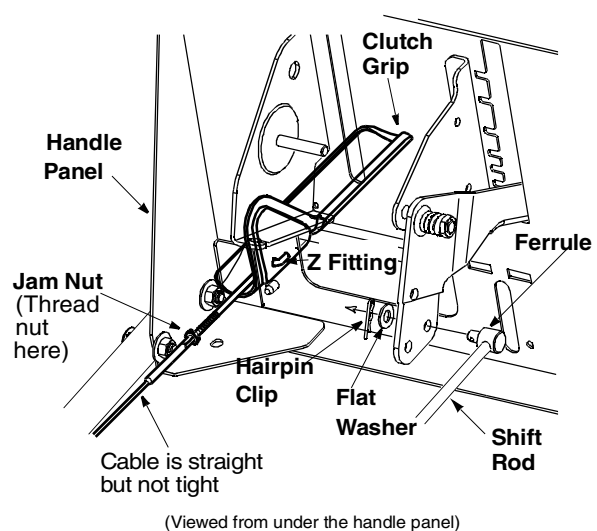

Figure 26
- If adjustment is necessary, loosen the jam nut on the traction drive cable and thread the cable in or out as necessary. See Figure 26. Tighten the jam nut to secure the cable when correct adjustment is reached. Reassemble the frame cover.
- Place shift lever in sixth (6) position or the fastest forward speed.
- Rotate the ferrule up or down on the shift rod as necessary until the ferrule lines up with the upper hole in the shift lever. See Figure 26.